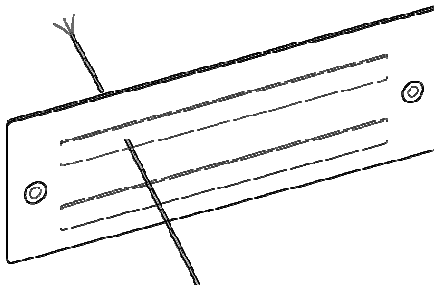

Figure 6 Pulling the input cable through the terminal protection cover
1. Pull the input cable through the terminal protection cover, as shown in Figure6.
1. Pull the output cable through the terminal protection cover, as shown in Figure 6.